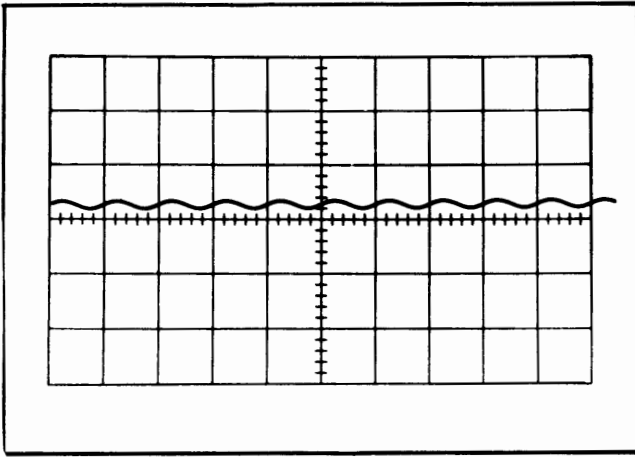

Fig. 5-25. Typical CRT display when checking high-frequency reject operation at 50 kilohertz.
c. CHECK—Stable CRT display (see Fig. 5-25) can be obtained with the B LEVEL control.
i. CHECK—Stable CRT display (see Fig. 5-25) can be obtained with the A LEVEL control.